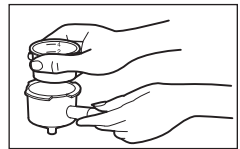
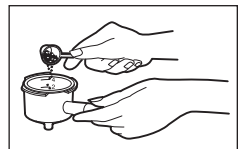

Figure 2
Figure 3
4. Place the Filter Basket into the Filter Holder (see Figure 2). Add the desired quantity of espresso coffee to the Filter Basket using the Measuring Scoop provided (see Figure 3). Spread the espresso coffee evenly in the Filter Basket and lightly press it down. Special marks on the inside of the Filter show the correct espresso coffee levels for 2 and 4 cups. Remove excess espresso coffee from the edge of the Filter.